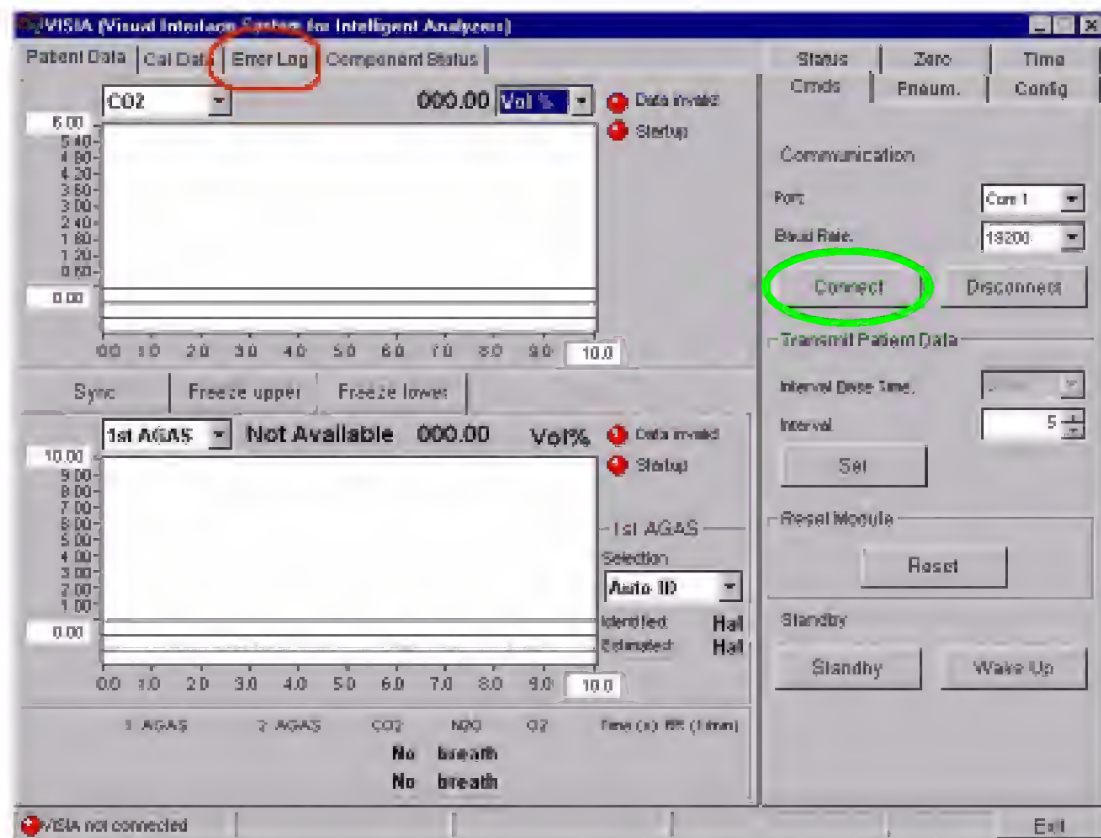

Fig.100: Start page of the VISIA program
The program automatically creates a connection to the Julian. If the connection needs to be created manually, press the "Connect" button (green marking). If communication between laptop and the IRIA is OK, a green lamp lights up and the message "VISIA connected" appears at the bottom left of the window (see Fig. 100).
- Select the "Error Log" tab (see Fig. 100; red marking). The error log is read out automatically (see the following figure for an example of the log).